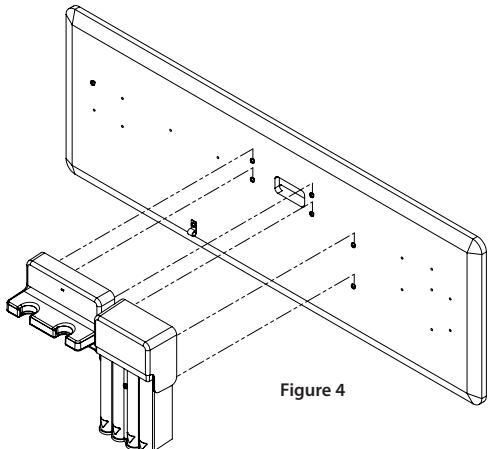

Figure 4
6. The screw holes for the diagnostic station and specula dispenser have been pre-installed on the wall board to the correct height. Align the openings on the back of the devices with the screws and push downwards to secure. (Figure 4)